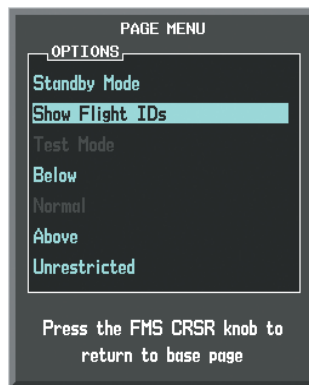

Figure 6-166 Traffic Map Page Menu
- 2) Turn the small **FMS** Knob to choose 'Show Flight IDs' or 'Hide Flight IDs' (choice dependent on current state) (Figure 6-166).